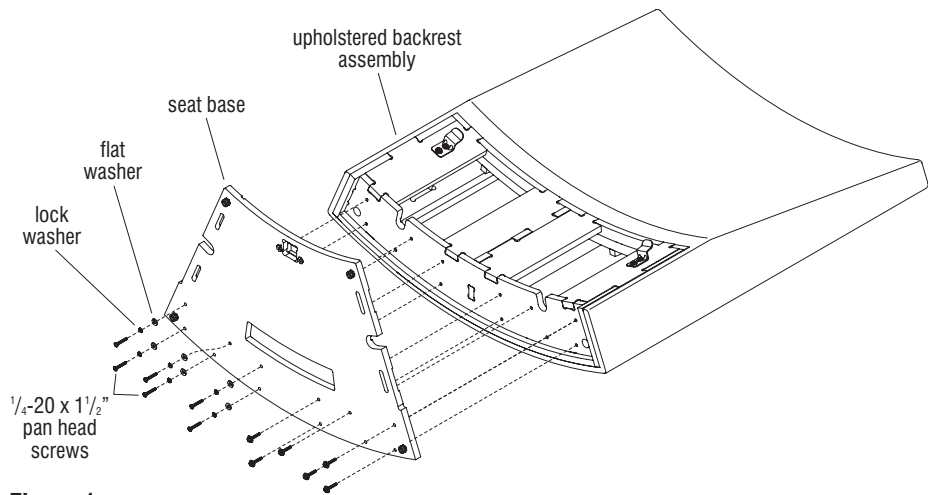

Figure 1
1. Carefully lay the upholstered backrest assembly onto its back on a clean, protective surface (Figure 1).
2. Remove the 1/4-20 x 1 1/2" pan head screws with lock and flat washers which secure the seat base to the upholstered backrest assembly. Then, separate the seat base and the backrest assembly and move components near the final installation location (Figure 1 & Detail A).
seat base mounting holes with the backrest mounting holes and secure using 1/4-20 x 1 1/2" pan head screws with lock and flat washers. Tighten all screws securely (Figure 1 & Detail A).